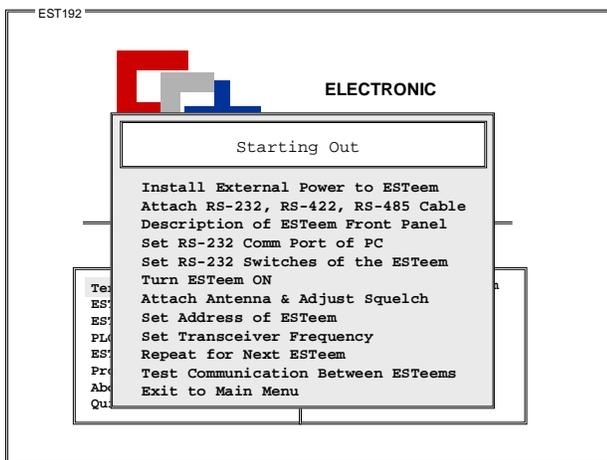

Figure 3: Starting Out Menu
1. Select ESTeem Setup from the main menu. A window like the one in Figure 3 will be displayed. This window is a check sheet for setting all